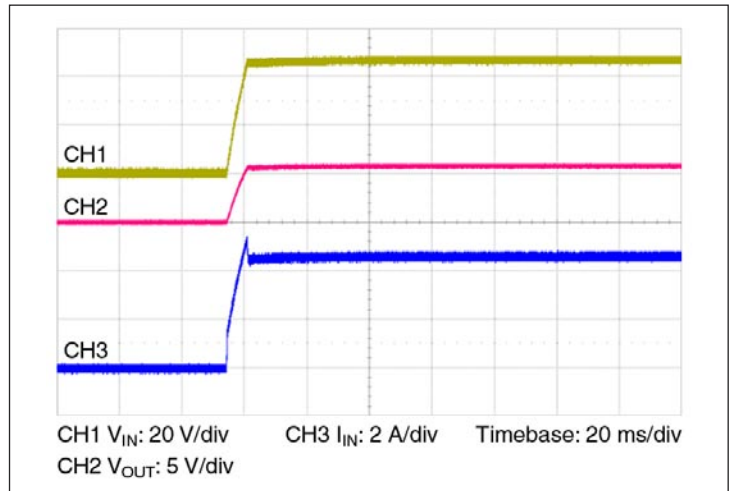

Figure 10 — Start up from application of V_{IN} ; VC pre-applied $C_{OUT} = 4000 \mu F$
- **Normal operation (VC applied prior to V_{IN}):** In this case the controller is active prior to ramping the input. When the input voltage is applied, the VTM module output voltage will track the input (See Figure 10). The inrush current is determined by the input voltage rate of rise and output capacitance. If the VC voltage is removed prior to the input reaching 26 V, the VTM may shut down.